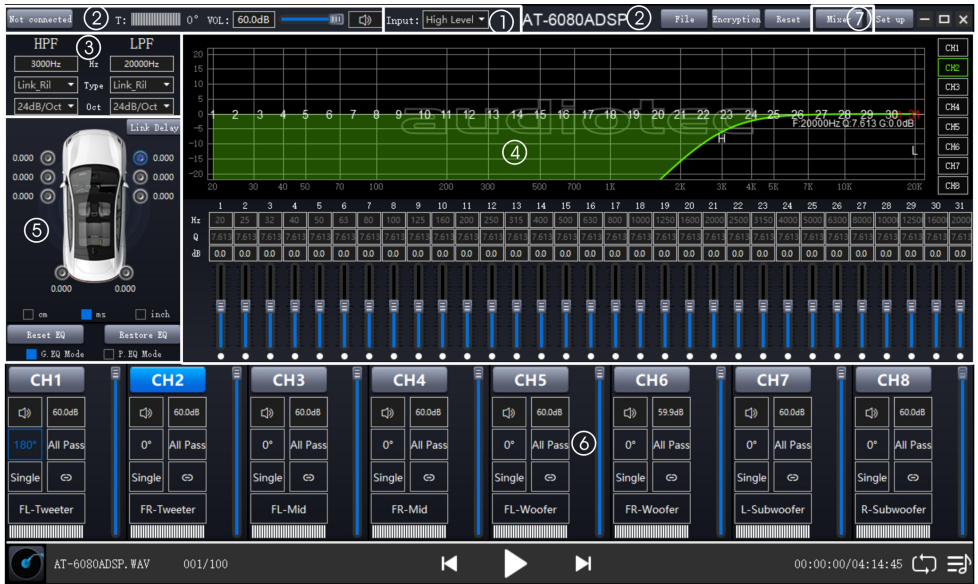
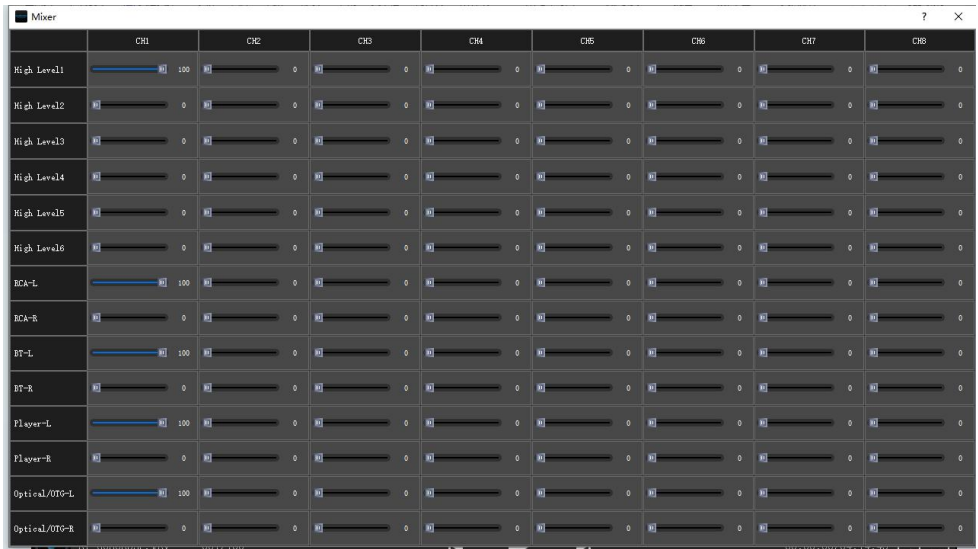

Figure 3.2.2
figure 3.3.14
1. as shown in figure 3.2.2, "1", input signal selection: high level, low level, Bluetooth, Optical, Player, OTG In.
2. as shown in figure 3.2.2 "2", shows the main menu and connection status.
3. as shown in figure 3.2.2 "3", the high-pass and low-pass Settings of the divider.
4. as shown in figure 3.2.2, "4", area is output channel EQ setting.
5. as shown in figure 3.2.2, "5", shows the setting of delay space.
6. as shown in figure 3.2.2, "6", output channel configuration and common parameter adjustment area.
7. as shown in figure 3.2.2, "7", shows the setting of Mixer space.
In the online mode, in Figure 3.2.2 "1", click the appropriate input source, you can switch the audio input signal.
"6" area, click on the corresponding channel number in Figure 3.2.2 (CH1, CH2 ..... CH8), you can switch to the corresponding channel to adjust relevant parameters when changing the channel editing, where there are only 3.2. 2 "3" zone (crossover and equalization parameters) will vary depending on the channel and change the parameter values.
**Mixer settings:** click "mixer" in the "7" area in Figure 3.2.2, then you can switch to (Figure3.3.14) the relevant parameter settings for the corresponding adjustment.